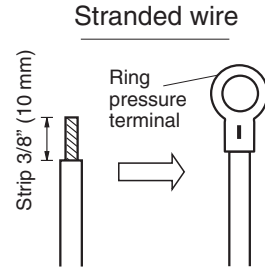
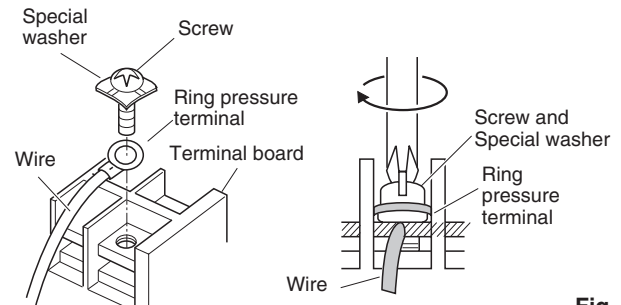

Fig. 4-3
Fig. 4-4
- (1) Cut the wire end with cutting pliers, then strip the insulation to expose the stranded wiring approx. 3/8" (10 mm) and tightly twist the wire ends. (Fig. 4-3)
- (2) Using a Phillips head screwdriver, remove the terminal screw(s) on the terminal board.
- (3) Using a ring connector fastener or pliers, securely clamp each stripped wire end with a ring pressure terminal.
- (4) Place the ring pressure terminal, and replace and tighten the removed terminal screw using a screwdriver. (Fig. 4-4)
- (5) Confirm the “Checkpoint” under the section “8.PRECAUTIONS ON TEST RUN” after installation of indoor and outdoor units, panels and electrical wiring.